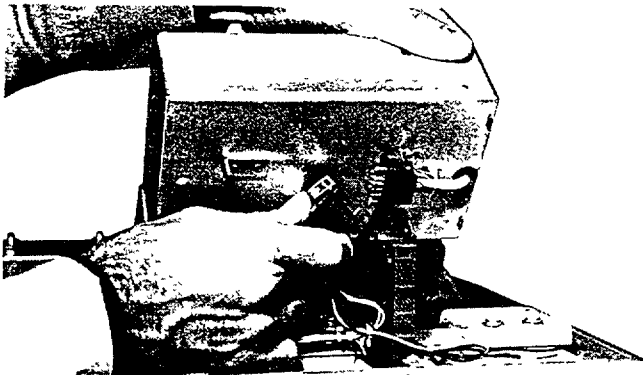

Fig. 5. Programmer removal/installation
- a. Remove the screws (2) supporting the programmer, located on the supports beneath the unit.
- b. Tip the programmer up; disconnect its electrical plug, and remove the programmer. See Fig. 5.
- a. Disconnect the electrical plug from the programmer. See Fig. 5.
- b. Install the programmer (2 screws), and connect its electrical plug. See Fig. 5.
- c. Insert the programmer's electrical plug and wires through the access hole and connect the plug to the programmer. See Fig. 5.